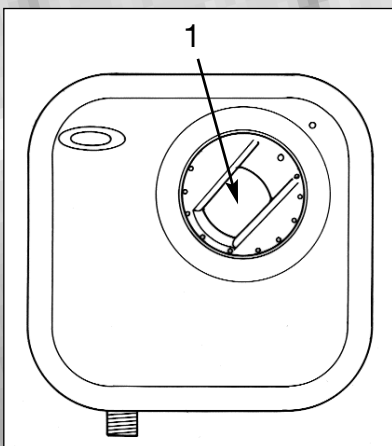

Fig.9. 1000 Plus Thermostatic
- To switch the shower on, turn the control knob (1) anti-clockwise. Water will flow from the handset. Fig.9.
- Rotating the control knob (1) anti-clockwise from the off position will gradually increase the showering temperature.